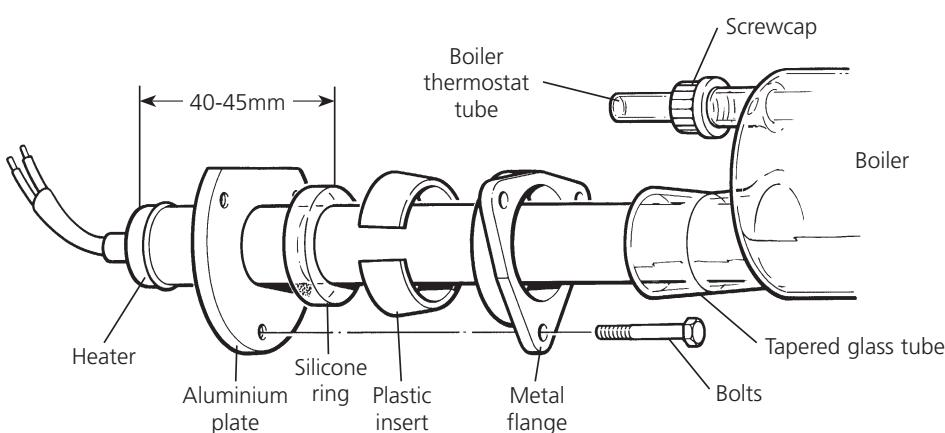

Figure 2 Heater and thermostat tube assembly
4. Take the boiler, the heater and the gasket kit and assemble as shown in **figure 2**.
- iii) Place the aluminium plate, followed by the silicone ring over the heating element and locate approximately 40-45mm from the end with the electric cable, see fig. 2.